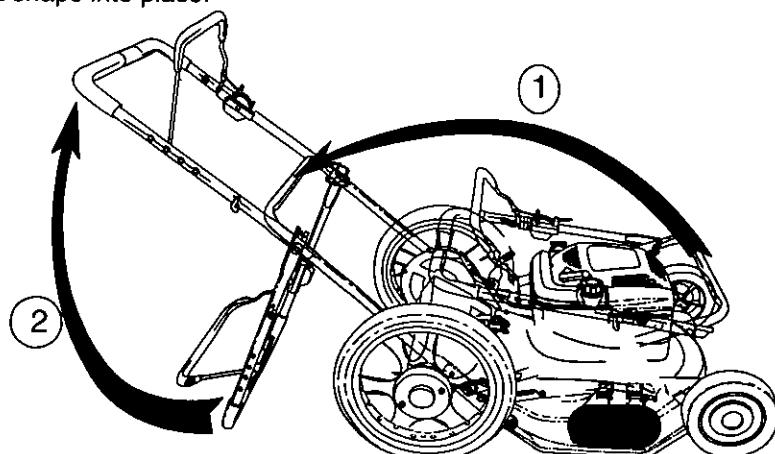

FIGURE 4
- Remove all the loose parts from the carton. Raise the lower handle in the direction shown in Figure 4 (step 1) till it snaps into place.
- Raise the upper handle in the direction shown in Figure 4 (step 2).